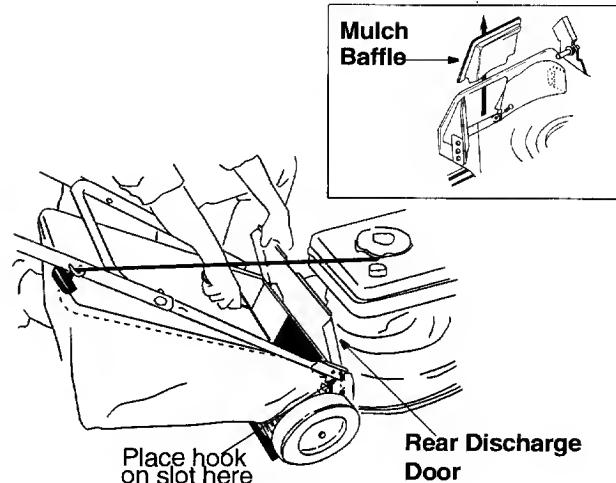

Figure 6
- Your mower is equipped with a mulching baffle, it is in place on the mower. To remove the mulching baffle, lift the rear discharge door on the mower. Remove the mulching baffle. See Figure 6 inset.
- To attach the grass catcher:** Lift the rear discharge door on the mower. Place the hooks on the grass catcher into the slots in the handle bracket assemblies. Release the rear discharge door. See Figure 6.
- To remove the grass catcher:** Lift the rear discharge door on the mower as shown in Figure 6. Lift the grass catcher up, out of the slots in the handle bracket assemblies. Release the rear discharge door.